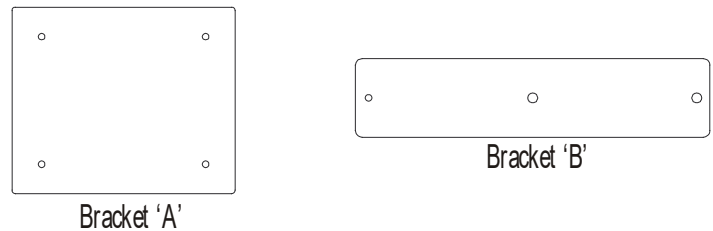

Figure 13
- Insulate drain lines located inside the building or above a finished living space to prevent sweating. The installation must include a “P” style trap that is located as close as is practical to the evaporator coil. See Figure 13 for details of a typical condensate line “P” trap.
NOTE: Units operating in high static pressure applications may require a deeper field constructed “P” style trap than is shown in Figure 13 to allow proper drainage and prevent condensate overflow.